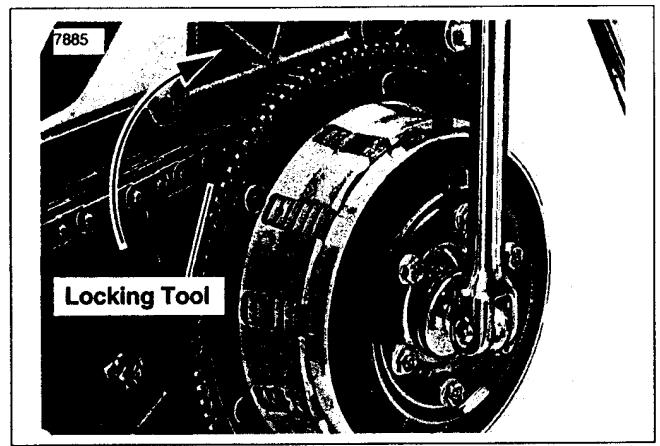

Figure 6-9. Removing Clutch Hub Mainshaft Nut
See Figure 6-9. When removing the clutch hub mainshaft nut the **PRIMARY DRIVE LOCKING TOOL** (Part No. HD-41214) must be placed between upper strand of primary chain and clutch hub sprocket.
- See Figure 6-9. Using a breaker bar, remove clutch hub mainshaft nut.